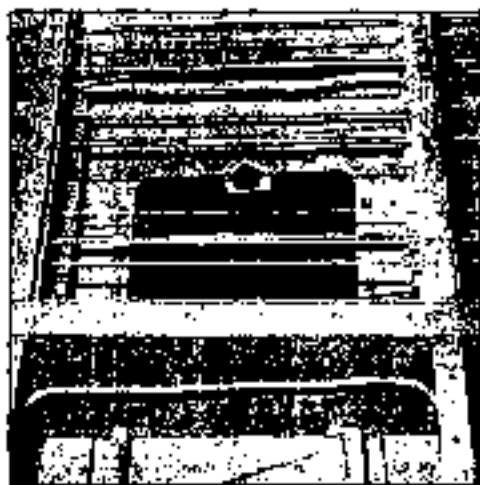

Fig. 5-33 Adjusting cable tension
- (4) Adjust cable tension by turning turnbuckle at P. STA 6360 to specified value of 50 \pm 1 lbs (70° F) (22.7 \pm 0.3 kg) (21°C). (See Fig. 5-33)